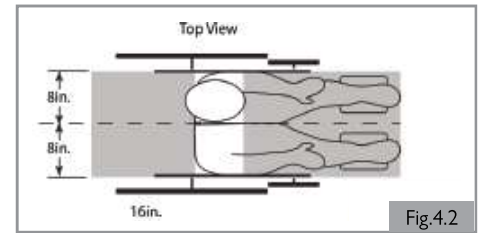

Fig.4.2
3. The recommended clear zones for wheelchair seated occupants restrained by both pelvic and upper-torso belt(s) and only by a pelvic belt are shown in the diagrams (Fig 4.2 and 4.3) and described below. Frontal Clear Zones (FCZ) need to be larger when upper torso belt(s) are not used. The Rear Clear Zone of 16-in (40.5 cm) is measured from the rearmost point on an occupant's head. The Front Clear Zone is measured from the front most point of an occupant's head and is 26-in (66 cm) with pelvic and upper-torso belt(s) and 37-in (94 cm) with only a pelvic belt. The frontal clear zone may not be achievable for wheelchair-seated drivers.